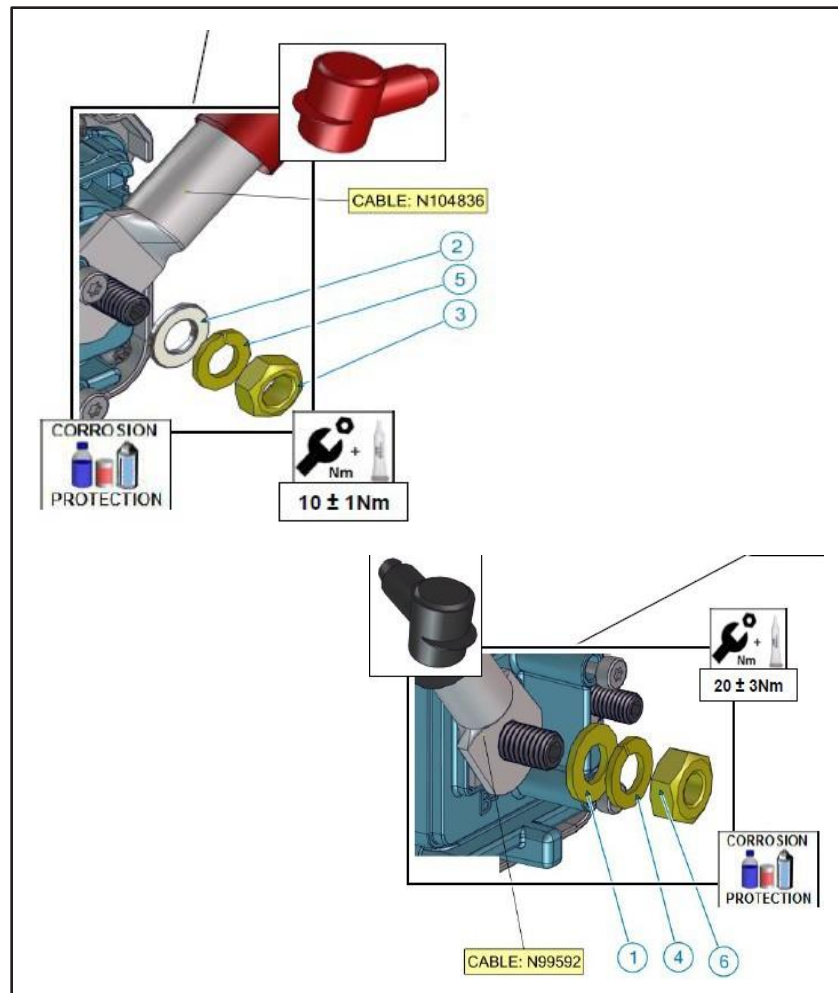

Figure 8 - Re-installation of motor (+) and (-) cables and apply anticorrosive NCP2 on cables
- 1.10. Re-install the motor positive (+) and negative (-) cables with torque values and apply anticorrosive NCP2 on re-connected cables (see figure 8).